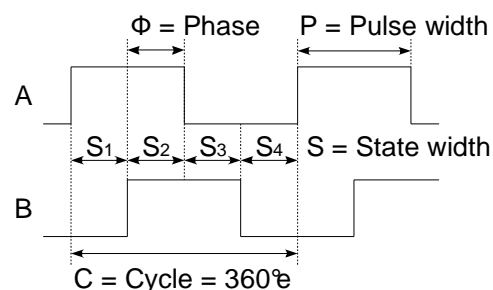

Fig. 2 Encoder output signals A and B in quadrature.
- Cycle** One A quad B period, see Fig. 2.
- Phase shift Φ** Number of electrical degrees between the center of the high state of channel A and the center of the high state of channel B. Nominal values is 90°. See Fig. 2.
- Pulse width P** Number of electrical degrees that an output is high during one cycle. Nominal value is 180°. See Fig. 2.
- State width S** Number of electrical degrees between two neighboring A and B transitions. Nominal value is 90°. See Fig. 2.